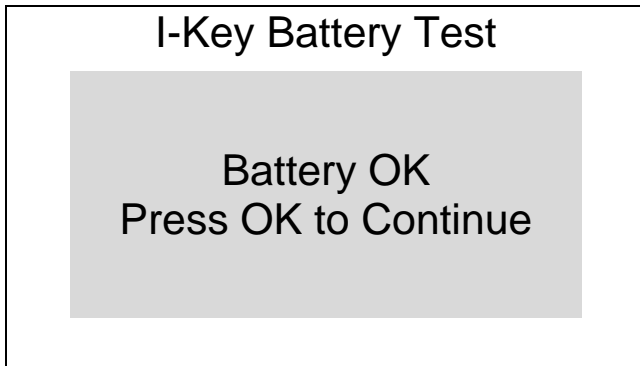
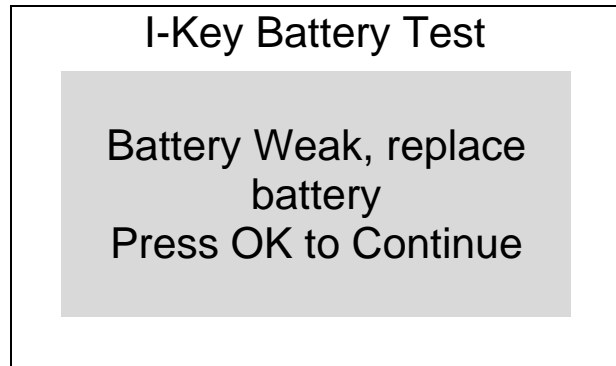

Figure 7
Figure 8
8. When step 7 is complete, the message in Figure 7 or Figure 8 will display.